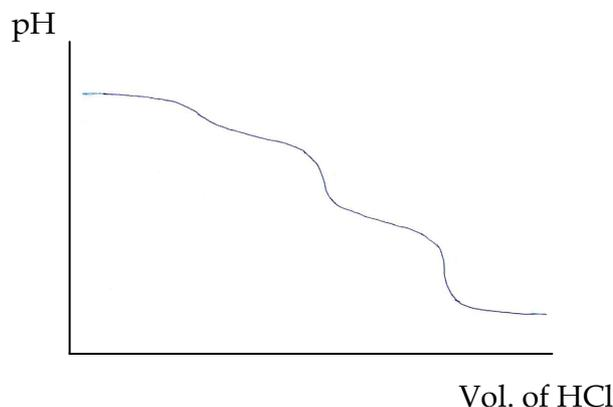

Fig. 1: Titration curve for a mixture of NaOH(aq) and Na₂CO₃(aq) with HCl(aq)
Stoichiometry confines each of the above reactions to react according to a mole ratio of 1 : 1. This means, say from equation (2), the number of mole of HCl(aq) determined from the methyl orange titration is equal to the number of mole of NaHCO₃(aq). Likewise, total number of moles of NaOH(aq) and Na₂CO₃(aq) in the solution mixture can be calculated according to the volumes of HCl(aq) added at the end point indicated by the colour change of the phenolphthalein indicator. Alternatively, the three break points (see Fig. 1) also indicate the volume of HCl(aq) required for each reaction.